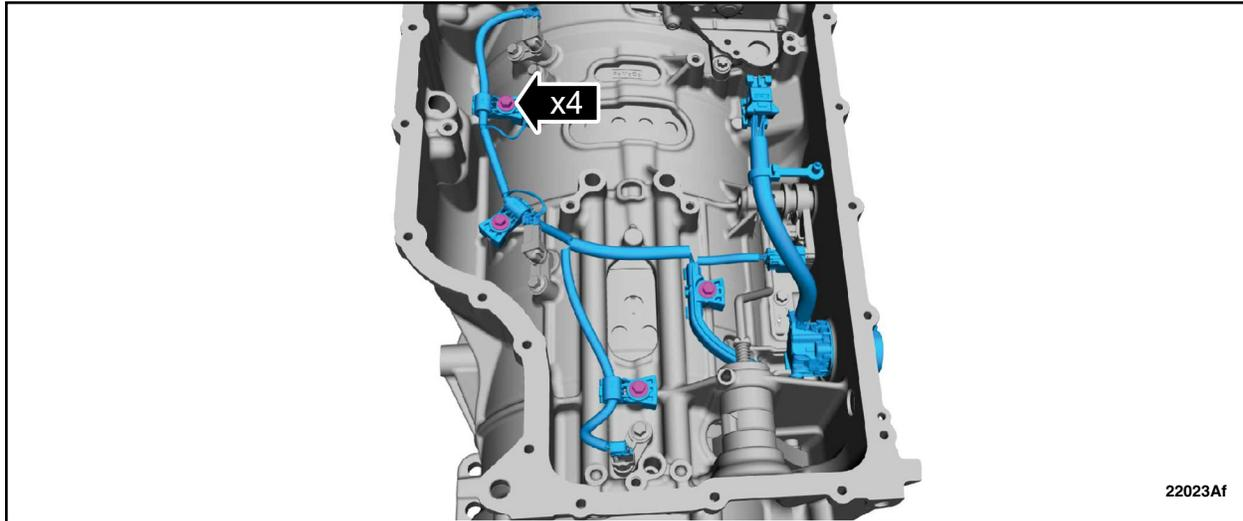

FIGURE 7
10. Remove the bolts and the transmission internal wiring harness. See Figure 7.